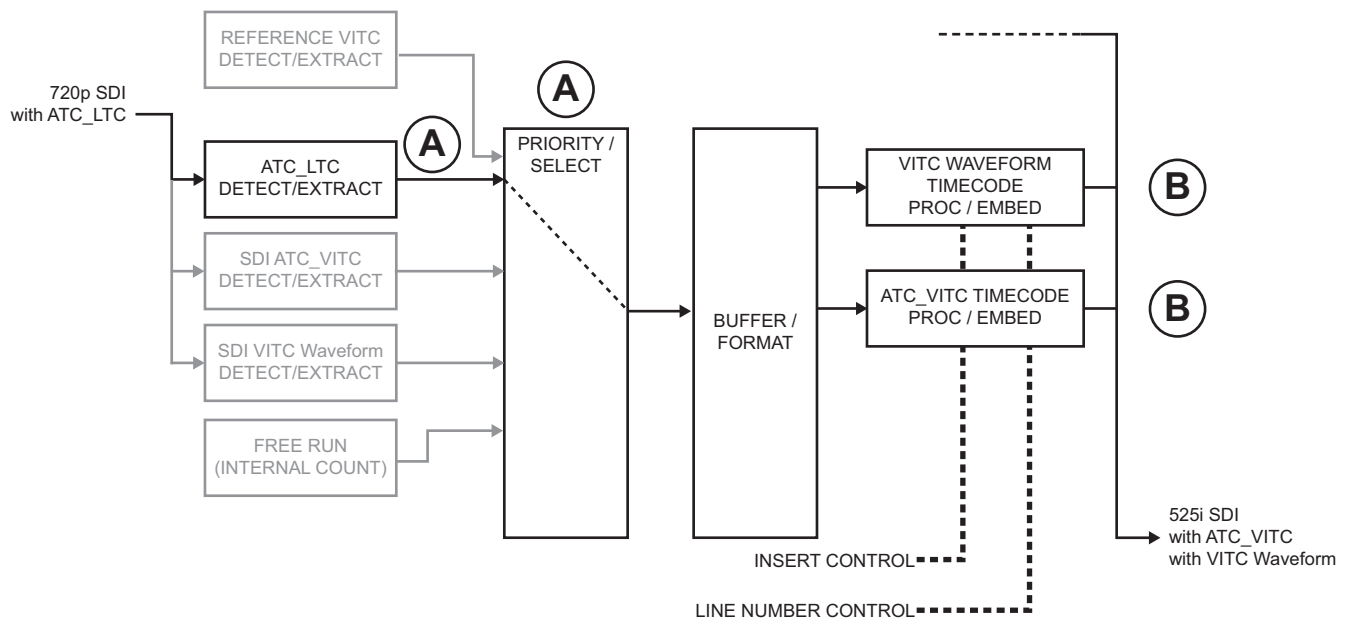

Figure 4.7 Using SDI ATC_VITC and VITC Waveform Timecode Data
Figure 4.7 is an example (B) of providing both SDI ATC_VITC and VITC waveform timecode data in the converted SD output video.
As such set both **SD ATC VITC Insertion** and **SD VITC Waveform Insertion** to **Enabled**. In **Figure 4.7**, the line numbers are set to the default SMPTE 12M-2-2008 recommended values.